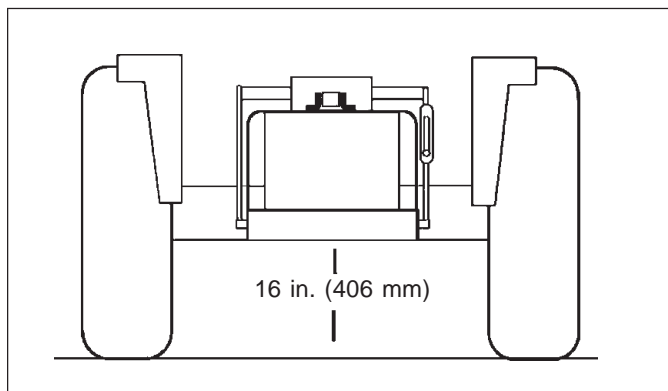

Figure 9
9. Raise the hitch until the dimension from the slot in the center of the swing plate to the ground measures 16 inches (406mm). See figure 9